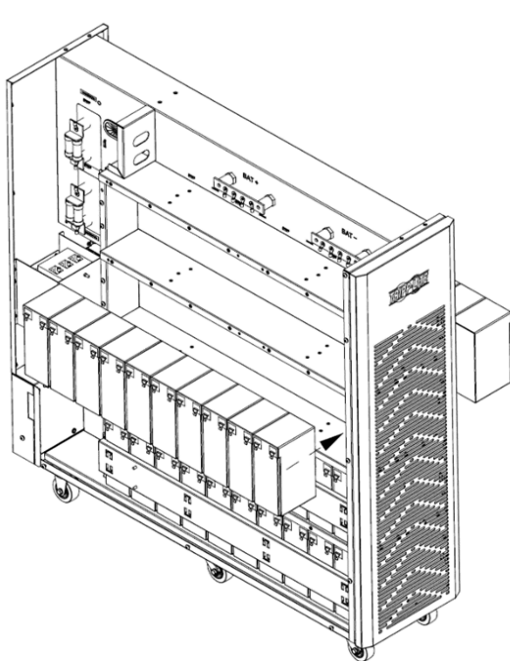

Figure 5-10A
11. Install 10 battery packs in the next layer (L3-A, group 3 positive string). Be sure to keep terminal sides of all batteries up (Figure 5-10A).